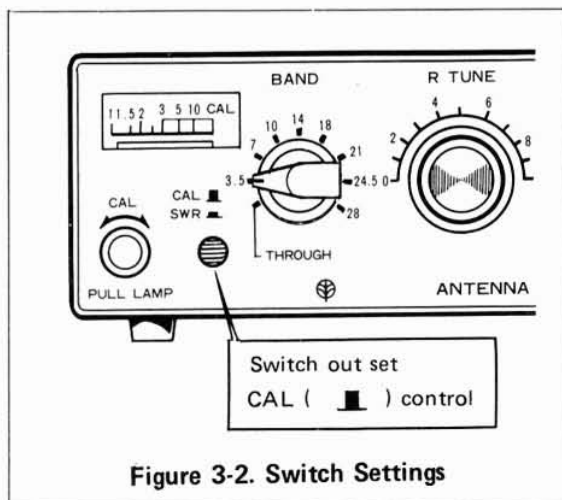

Figure 3-2. Switch Settings
- Set the controls as shown in Figure 3-2. Set the BAND switch to the "THROUGH" position.